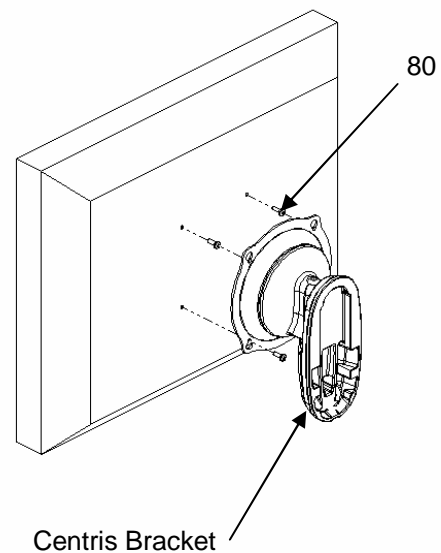

Figure 4. Flush Mount Centris Bracket to Display
1. Start two M4 x 12mm screws (80) into top mounting holes (not shown) on display.
2. Align mounting holes on Centris Bracket with screws installed on display. Hang display on Centris Bracket (see Figure 4).
3. Install two remaining M4 x 12mm screws (80) into bottom mounting holes on display.